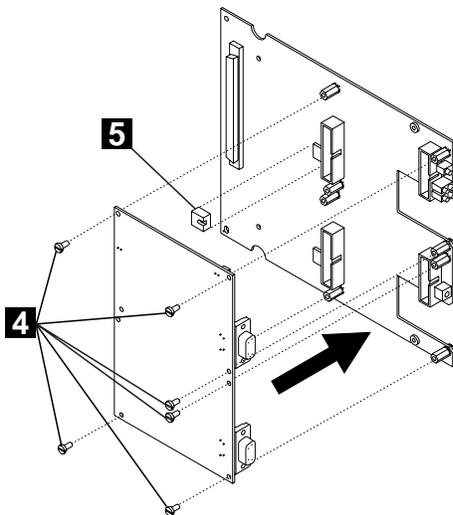

Figure 13. Attaching the I/O Card
- **5** Attach the I/O card to the motherboard using the six screws provided (**4** in Figure 13).